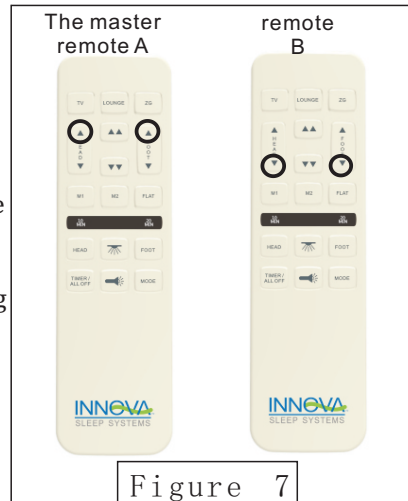

Figure 7
Press the **D** and **T** buttons of a new remote (B) (the one that has not sync with the beds), until the flash light flashing, then release the two buttons, The flash light will be on for 10 seconds. Meanwhile press **H** and **F** buttons of the master Remote (A), the copying process is successful when the flash light (B) starts to flash. Now both remote control will be able to control both beds to the same position. (See figure 7)